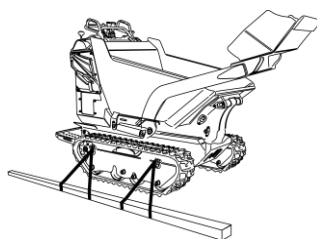

fig. 2.8 – Transport Anchor Points
- Secure it firmly to the transport vehicle's platform using strong CE-approved tie-down straps, always attaching them to the designated points as shown in figure 2.8